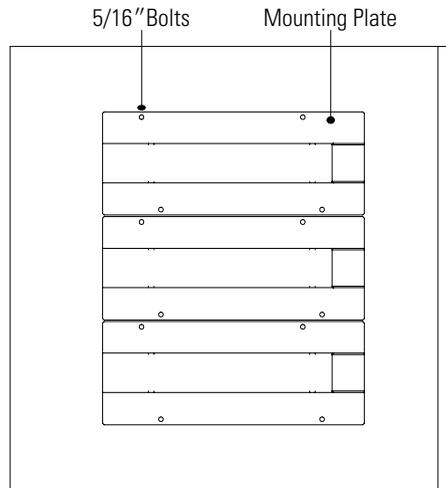

Figure 13. Seismic Installation Mounting Plates
2. If you are using only one EBCU and want increased stability or a seismic installation, remove the mounting plates from the pallets (see Figure 13). Otherwise, skip to Step 5 on page 18.